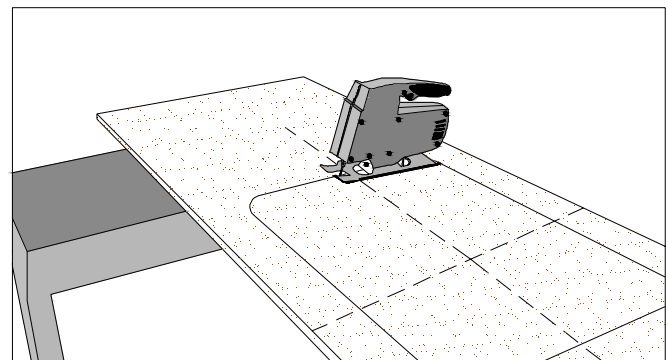

Figure 19C
- Using a jig saw, cut the substrate along the pencil outline of the sink. (FIG. 19C)